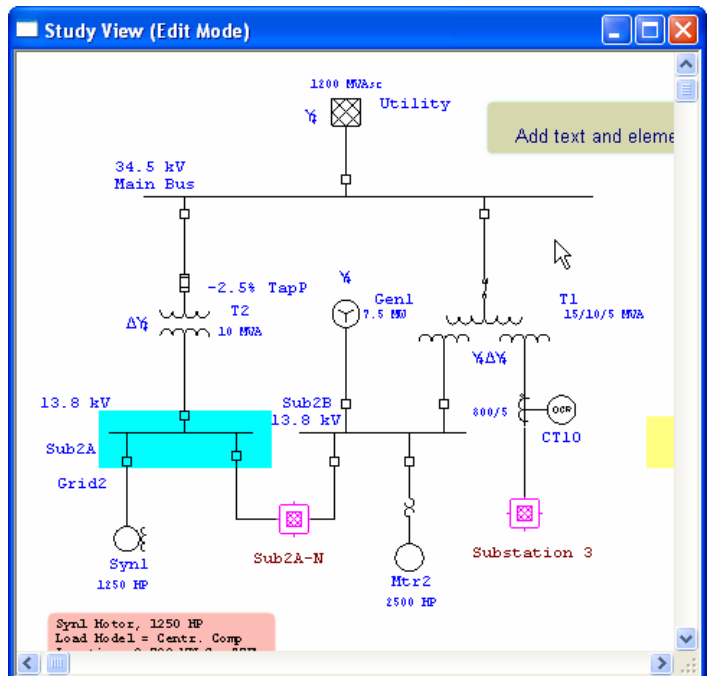

Fig. 13
14. Finally, arrange the position of the elements to the desired presentation. See Fig. 13
The one line presentation that we have now in Fig. 13 is completely the same as the one line presentation that we had in Fig. 4 in terms of electrical interconnection and composition.